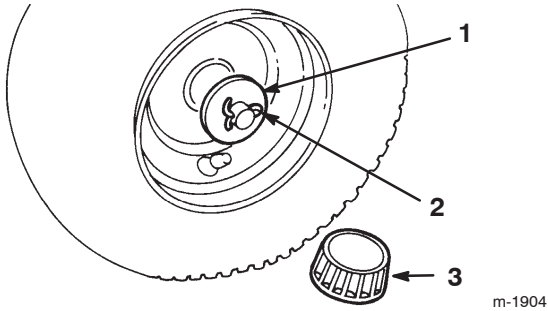

Figure 1
4. Insert the cotter pin through the axle and bend the ends of the pin apart (Fig. 1).
5. Push the hub cap (Fig. 1) onto the end of the axle.